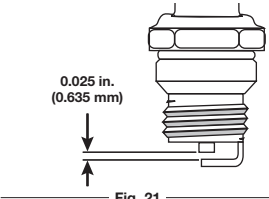

Fig. 21
- Replace cracked, fouled or dirty spark plug. Set the spark gap at 0.025 in. (0.635 mm) using a feeler gauge (Fig. 21).